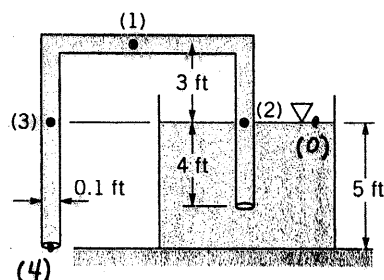

FIGURE P3.64
3.64 Water is siphoned from the tank shown in Fig. P3.64. Determine the flowrate from the tank and the pressures at points (1), (2), and (3) if viscous effects are negligible.